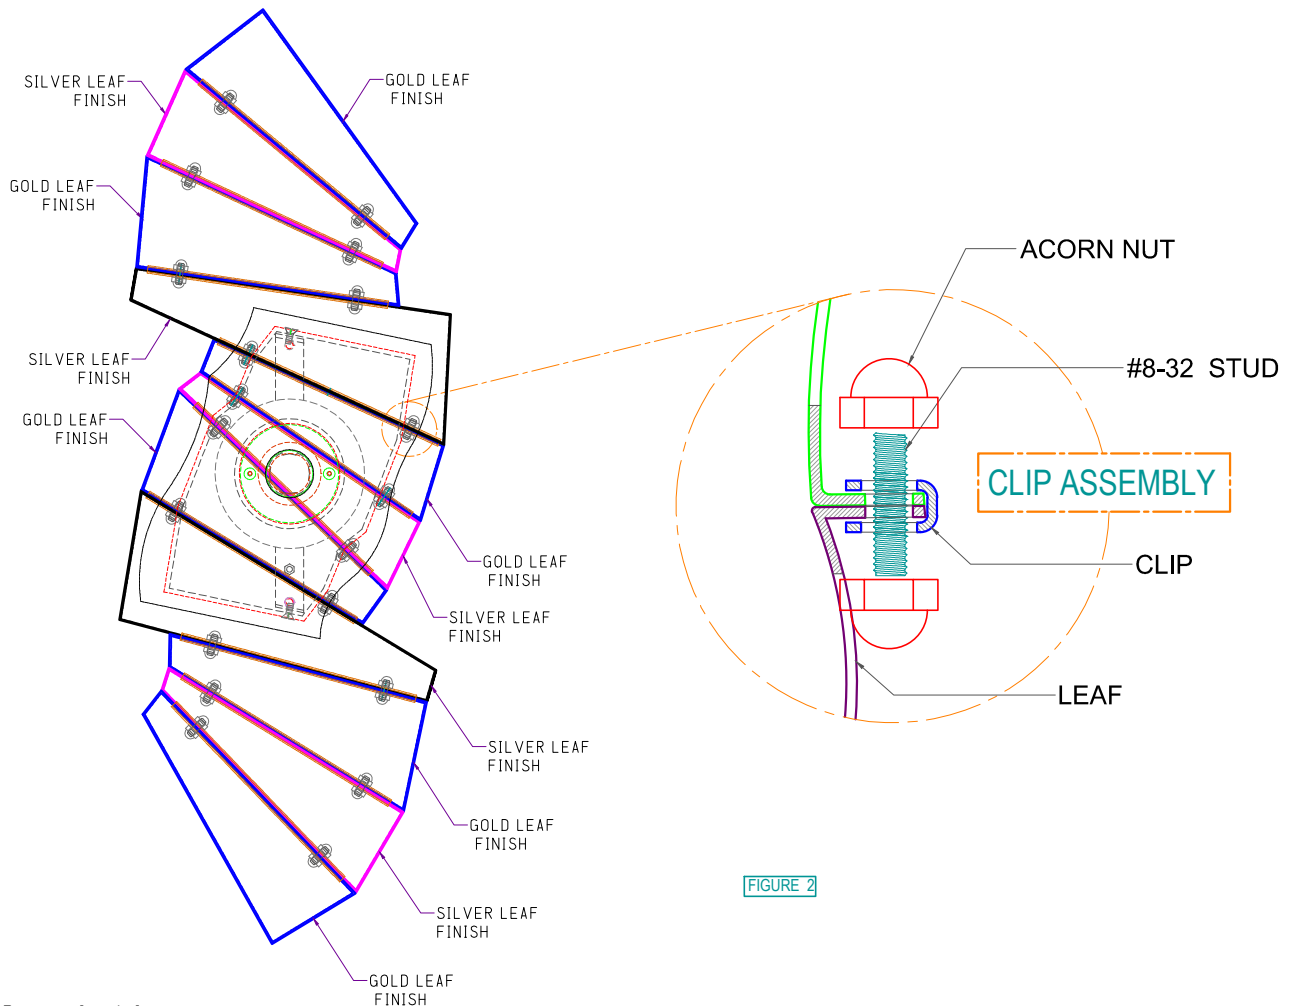

FIGURE 2
1. Assemble the leaves according to its pattern by Installing clip lock on it. (see fig. 2)